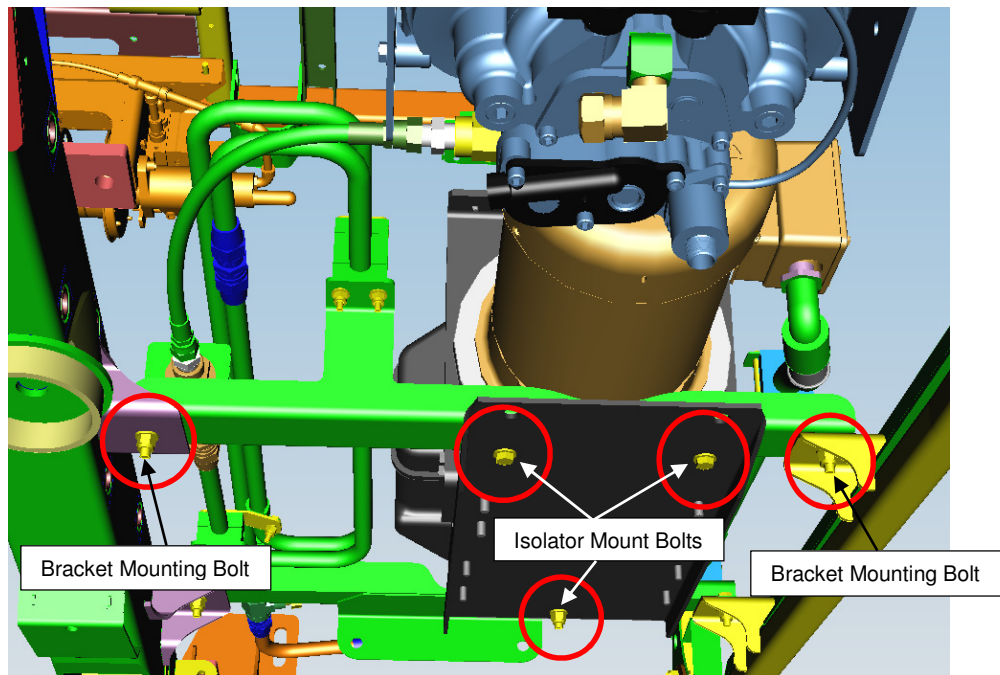

Figure 2: Bracket Mounting Hardware Locations.
8. Remove the bolts that secure the cross member to the bus chassis and remove the cross member from the bus. Figure 2.